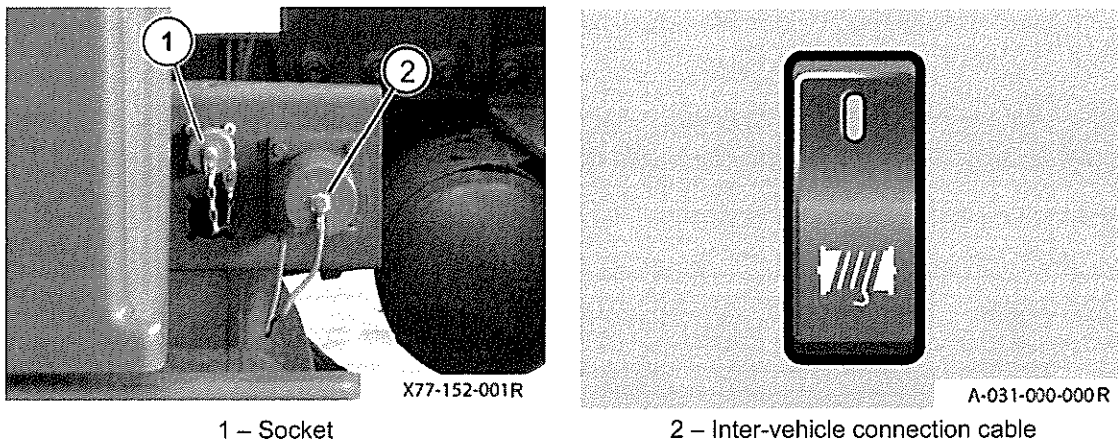

Fig 81 Winch remote socket and rocker switch
250 Refer to Fig 81. The socket (1) for the remote control of the cable winch is located on the right side of the battery box.
255 Refer to Fig 81. To connect the Inter-Vehicle Connection (IVC) (2) cable for starting assistance, proceed as follows:
256 Refer to Fig 81. To disconnect the IVC (2) cable after starting, proceed as follows: